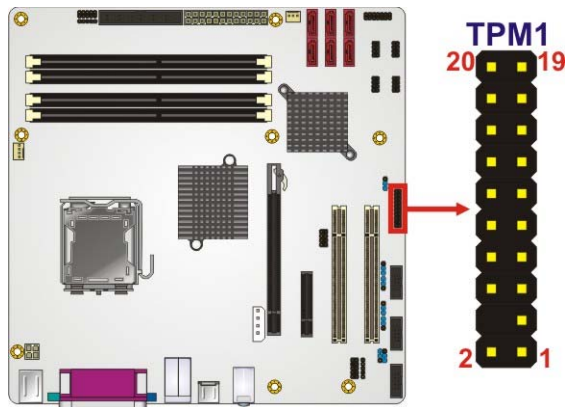

Figure 3-16: TPM Connector Location
- CN Location:** See **Figure 3-16**